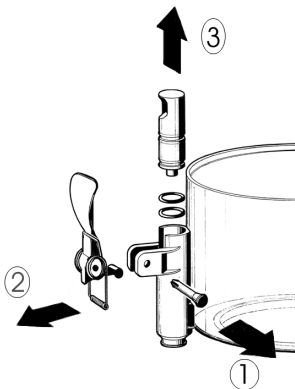

figure 1
- 3 - Dismantle the faucet following the sequence shown (see fig. 1)